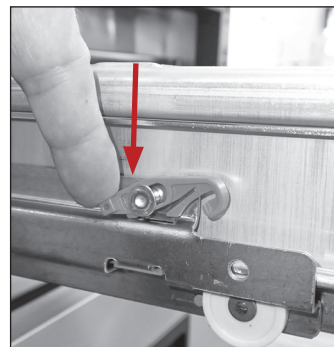

Fig. 6b. Push the back of the
11. With the plastic drawer retainer raised, align the drawer with the slide and push the drawer into position. See figs. 6b and 7.